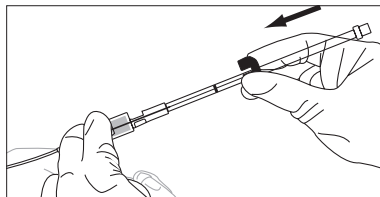

Figure 2
4. Use activating lever to advance guidewire into vessel (refer to Figure 2).